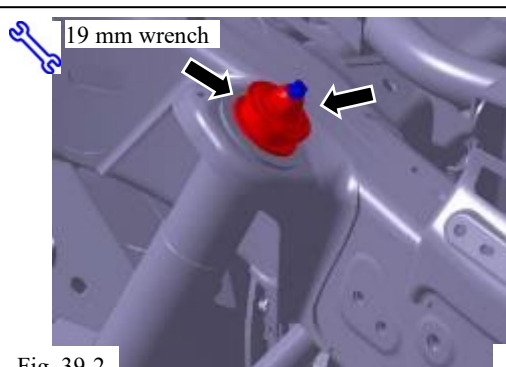

Fig. 39-2
- (d) Disconnect the rear absorber from the frame by removing the nut and rear No.1 shock absorber cushion. Retain the absorber cushion to reuse (Fig. 39-2).